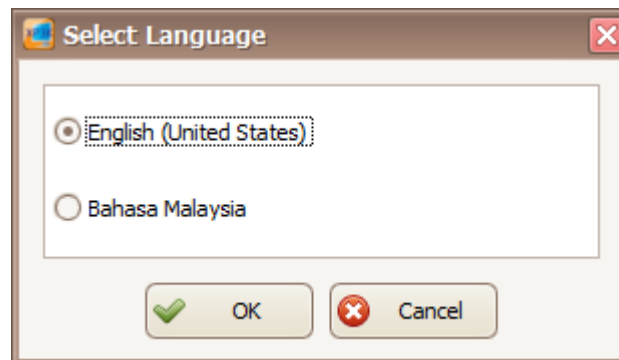

Figure 269 - Select Language
2. Select Language window will be shown. Choose the language that you want and click OK (Refer Figure 269).